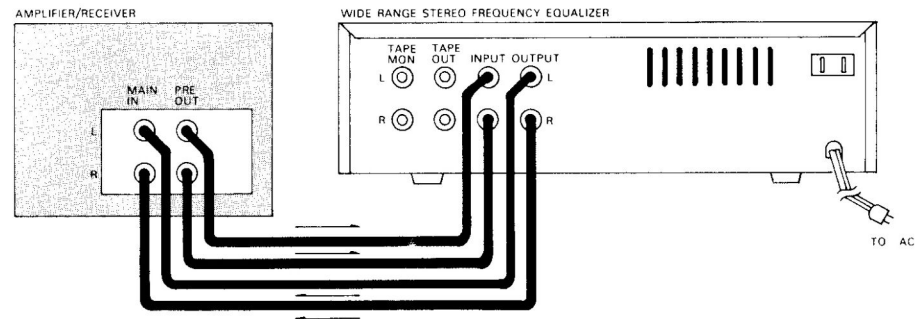
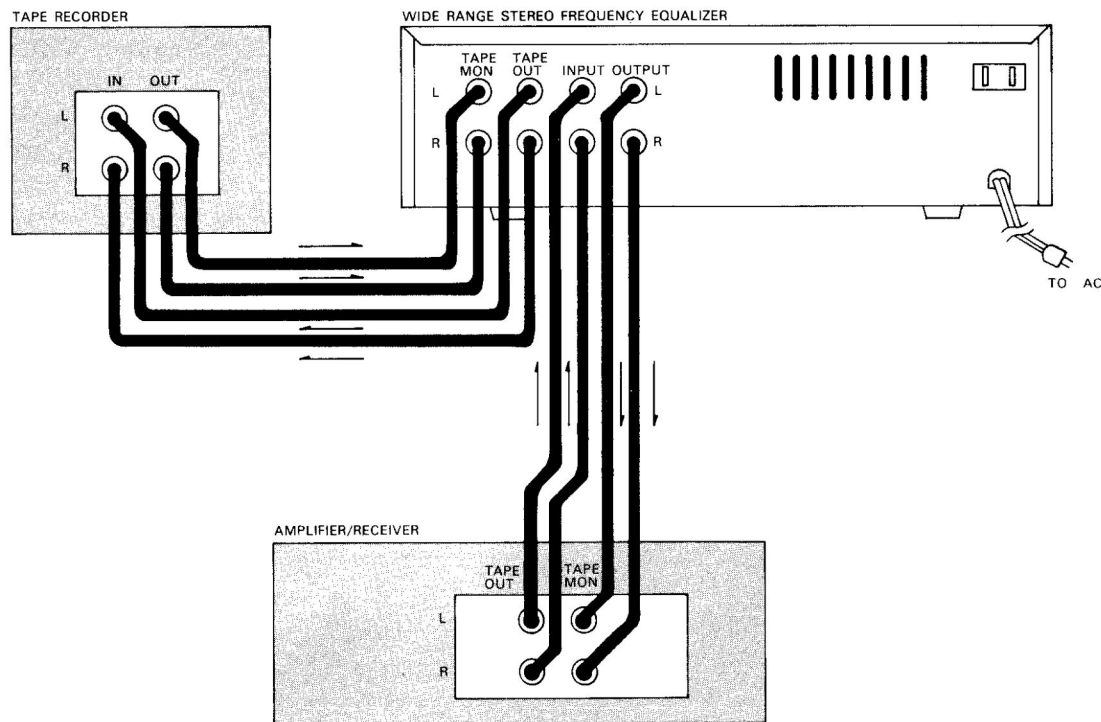

Figure 1B
Figure 2
If your audio system has a Pre-amplifier separate from the Power Amplifier, connect the Frequency Equalizer between the two, observing the correct channel notations. The Equalizer TAPE MONitor switch must be in the "out" position (button extended). Make connections as shown in Figure 1B.
To incorporate the Tape Monitor feature with wiring as shown in Figure 1B, change connections to be as shown in Figure 2. If your Tape Recorder has monitor function (a 3-head deck), press the Equalizer's **MONITOR** button to hear the recording after it has been made (also, for normal Playback of tape from your Recorder).
**IMPORTANT NOTE:** When you are using connections as illustrated in Figure 2, when you "monitor" the recording, it will have been processed by the Equalizer — and thus will not be an accurate "monitor" signal. For accurate monitoring under these conditions, use the **BYPASS** button.